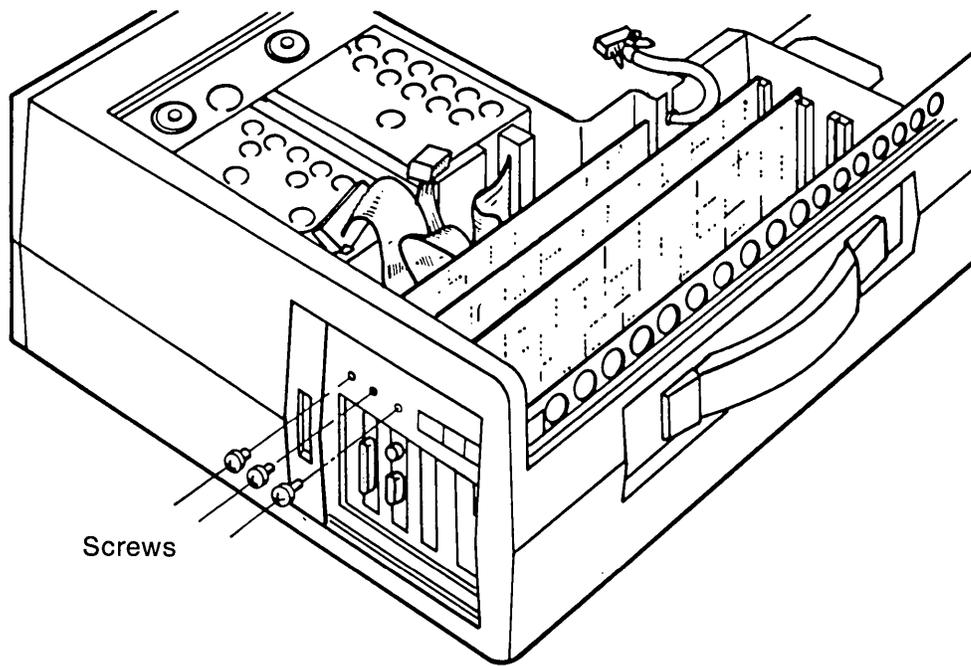

Figure 10-14. Removing the Screws Which Hold the Fixed Disk Adapter Board.
- 7 Remove the retaining screws that secure the fixed disk, floppy/printer and the VDU adapter boards to the system chassis (see Figure 10-14).